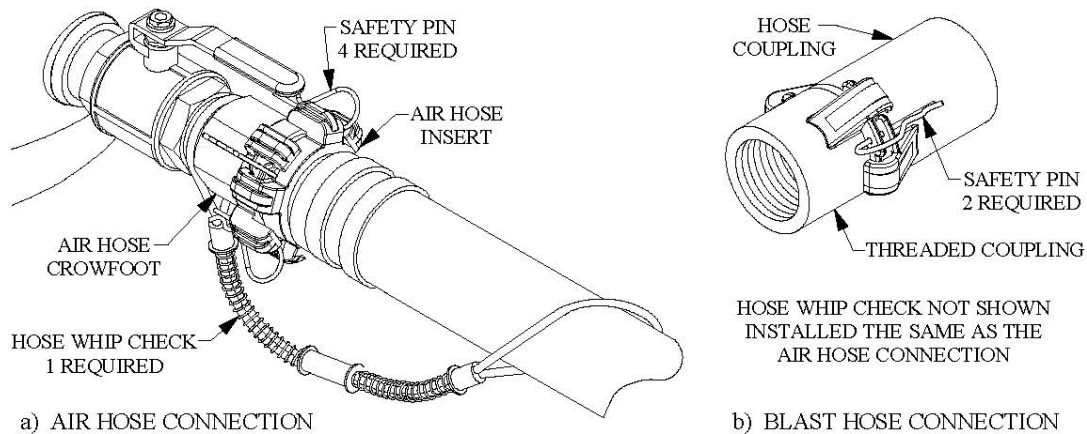

Figure 8.2 – Hose Connection Disconnect Protection
- 8.8. **Blast/Air Hose Couplings:** All air hose couplings have pin holes that align when connected. To protect against accidental hose disconnections safety pins must be installed through these holes. Each hose connection must also include a hose whip check that will hold the hose if there is an accidental disconnection. Connect one loop to each side of the connection and stretch out as shown in Figure 8.2 below. Check hose connections daily and replace missing or damaged pins and whip checks.